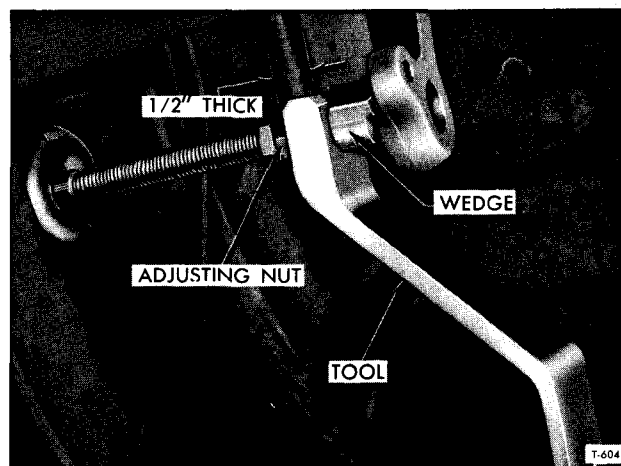

Figure 20—Using Large End of Tool
3. To adjust the push rod, use the thicker end of the tool and insert between adjusting nut and wedge on the slave cylinder push rod (fig. 20).